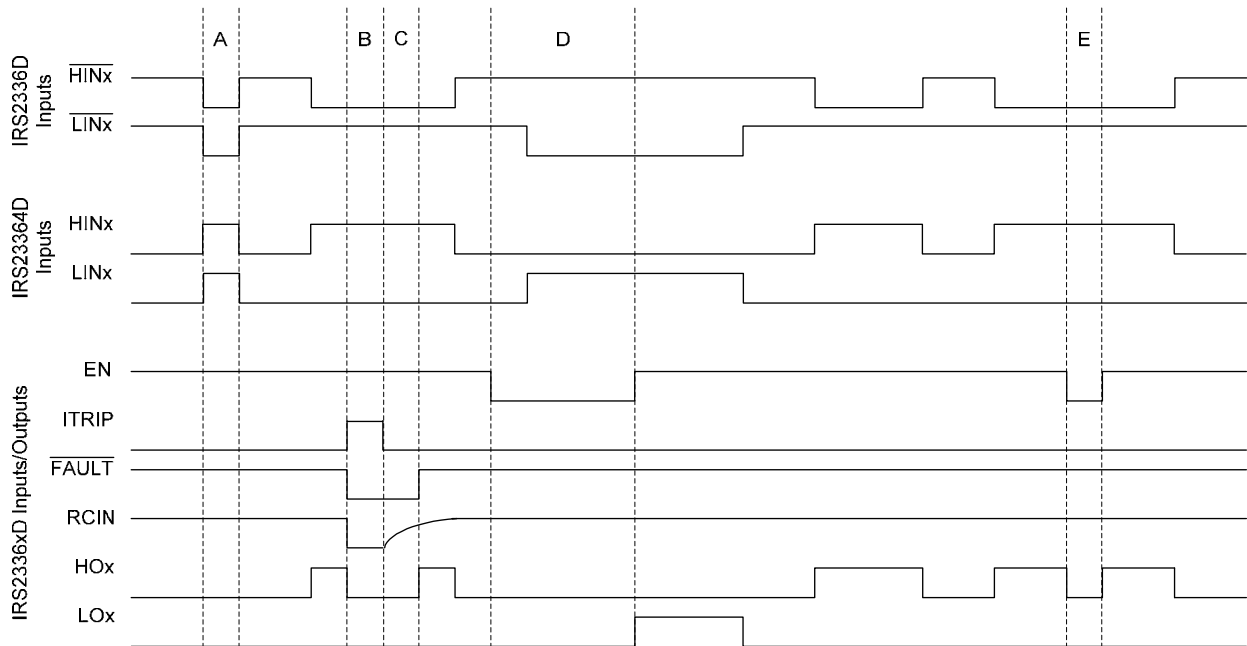

Figure 5: Input/output timing diagram for the IRS2336xD family
During interval A of Figure 5, the HVIC has received the command to turn-on both the high- and low-side switches at the same time; as a result, the shoot-through protection of the HVIC has prevented this condition and both the high- and low-side output are held in the off state.
Interval B of Figures 5 and 6 shows that the signal on the ITRIP input pin has gone from a low to a high state; as a result, all of the gate drive outputs have been disabled (i.e., see that HOx has returned to the low state; LOx is also held low), the voltage on the RCIN pin has been pulled to 0 V, and a fault is reported by the FAULT output transitioning to the low state. Once the ITRIP input has returned to the low state, the output will remain disabled and the fault condition reported until the voltage on the RCIN pin charges up to  $V_{RCIN,TH}$  (see interval C in Figure 6); the charging characteristics are dictated by the RC network attached to the RCIN pin.
During intervals D and E of Figure 5, we can see that the enable (EN) pin has been pulled low (as is the case when the driver IC has received a command from the control IC to shutdown); this results in the outputs (HOx and LOx) being held in the low state until the enable pin is pulled high.